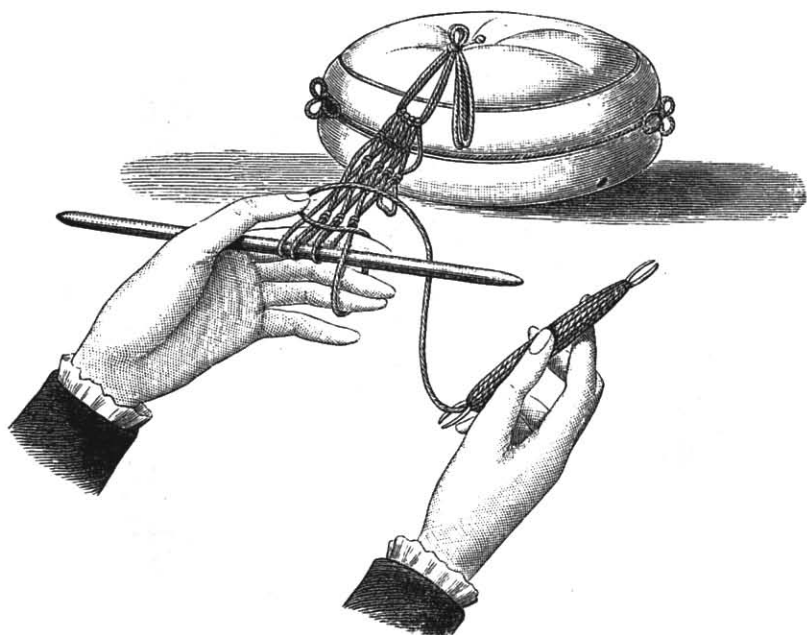

Fig. 3. First position of the hands.
**First position of the hands** (fig. 3). — Every piece of net must be begun on a foundation loop of strong thread 4 to 8 in. long, which is pinned on to the weighted cushion. Then fasten the netting-needle thread to this foundation loop.